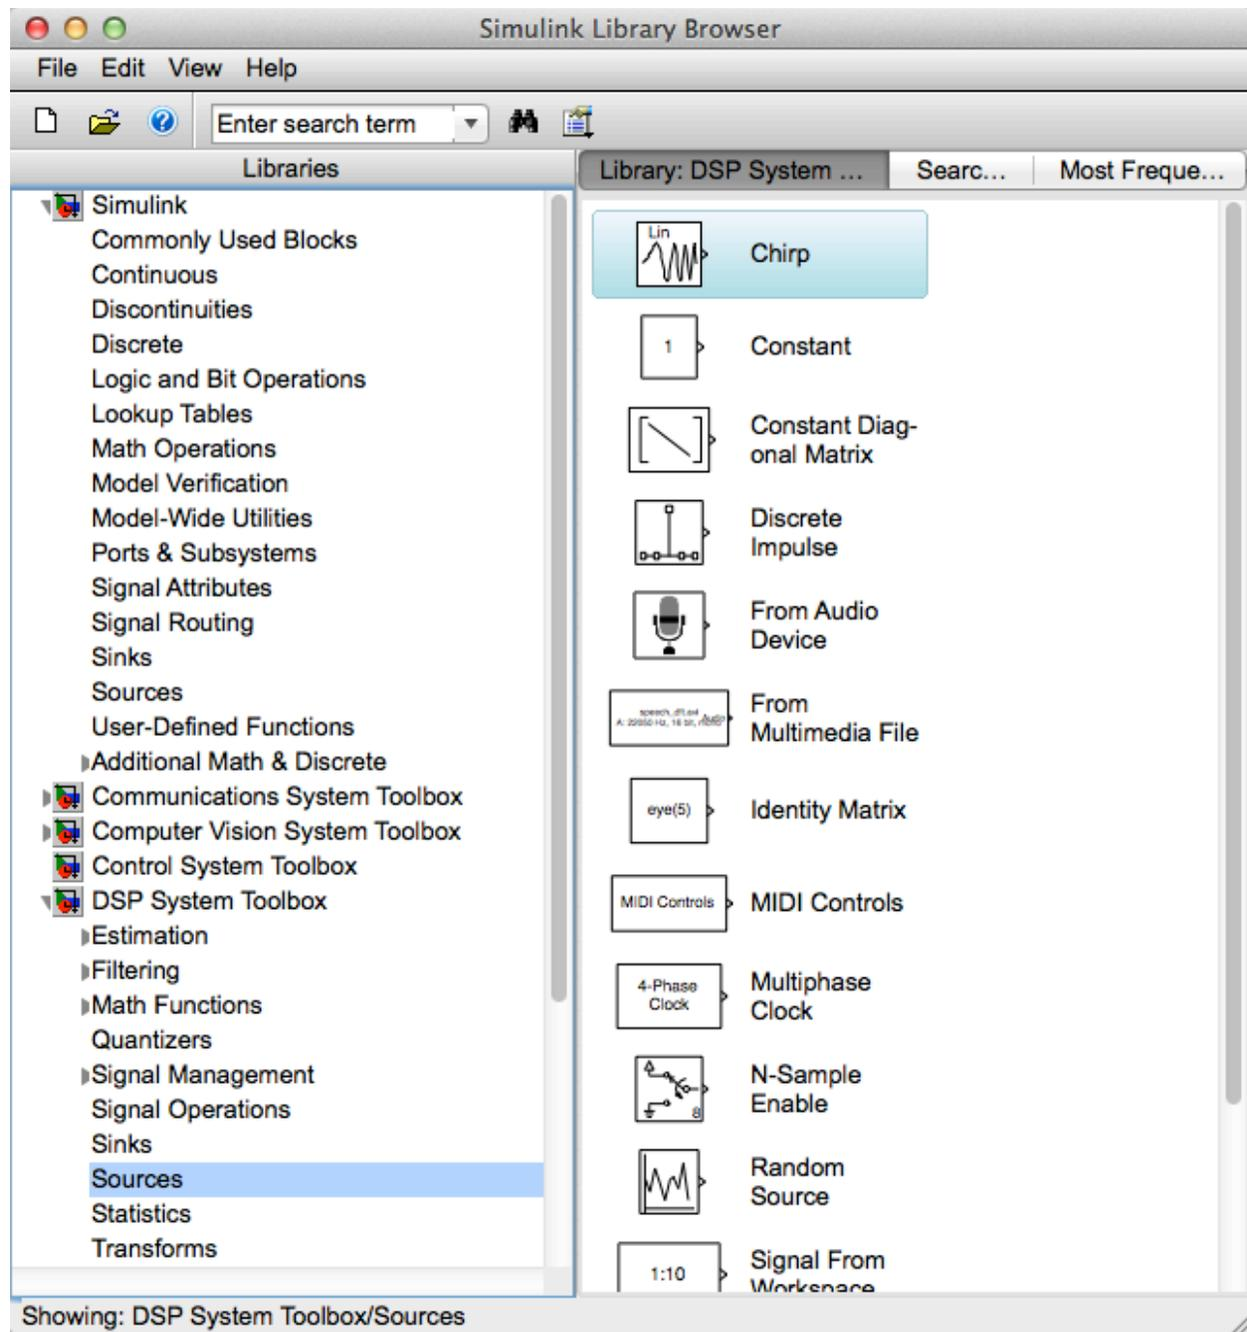

Figure 2. Source Blocks in the Simulink Library
5. Click once on the “Sources” sub-library. You should see a listing of blocks as shown in the right column of figure 2. Note that there is another sources sub-library under Simulink but we want to use one of the DSP sources in this example.